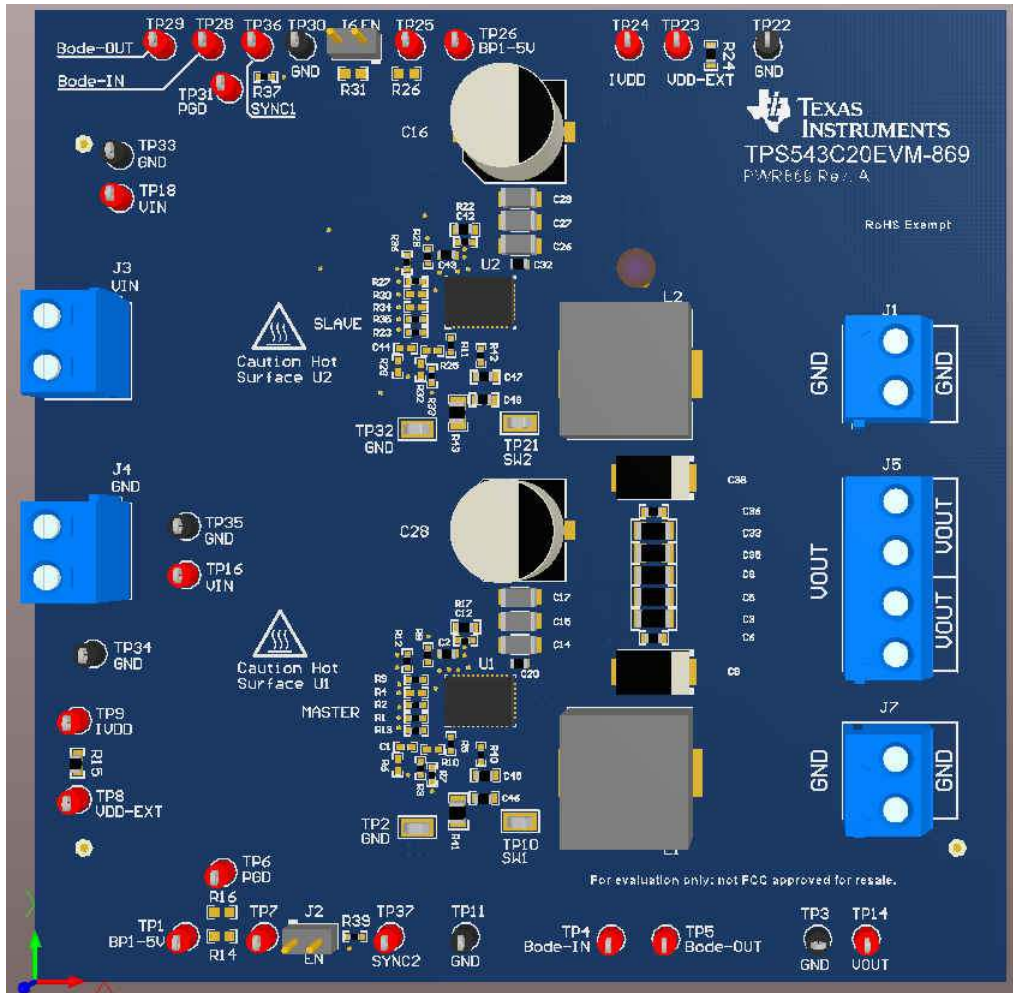

Figure 6-1. TPS543C20EVM-869 Overview
1. Connect the electronic load (+) to J5 and electronic load (–) to J1 and J7 (Figure 6-1).
4. Connect input power supply (+) to J3 and input power supply (–) to J4 (Figure 6-1).